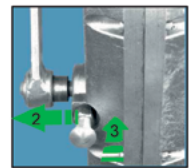

Figure 3
3. Pull out the locking pin with pear handle (see Figure 2), (Action 1), until the crank handle axis (Action 2) pops out audibly and visibly (Figure 3).